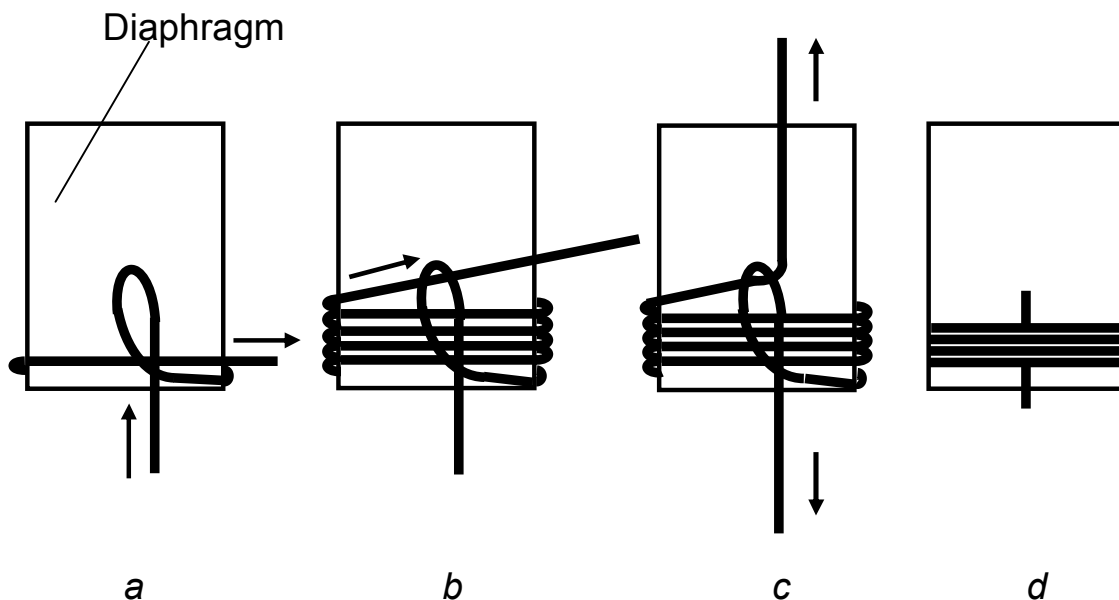

Fig.2.21
- wind 5-6 coils round the loop near to the silicone ring and then insert the thread end through diaphragm loop as shown in Fig. 2.21*b*;
- pull the thread end to shift the resultant knot under diaphragm thread coils as shown in Fig. 2.21*c*;
- cut off excessive length of the diaphragm thread as shown in Fig. 2.21*d*;